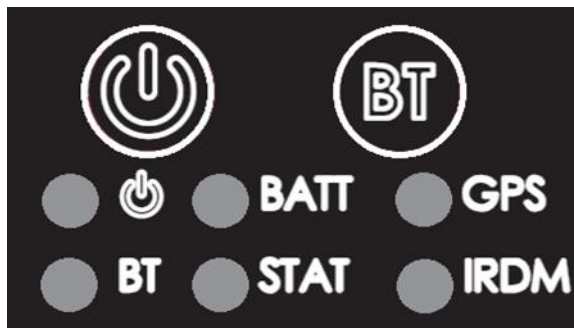

Figure 3: Control Buttons and Status LEDs on the SHOUT ns Front Face
The SHOUT ns has six status LEDs, as shown in **Figure 3**, which include: power , battery level (BATT), GPS fix (GPS), Bluetooth state (BT), transmission status (STAT), and Iridium signal (IRDM). They provide a quick visual check to ensure proper operations. Each LED can be enabled and disabled through a setting in the general configuration profile (**^LEDS**) (see section **5.2.2.1 General Profile Settings**). **Table 1** below describes the function of each LED.